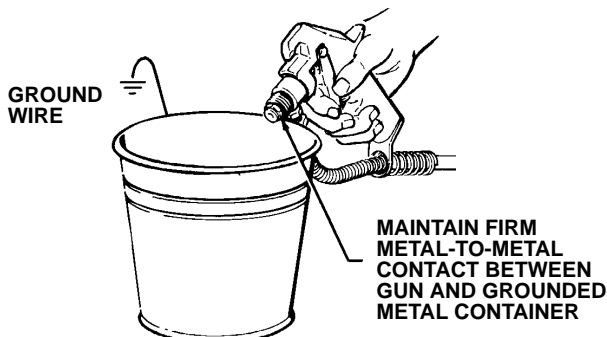

Fig 3
- Hold a metal part of the gun firmly against and aimed into a grounded metal waste container. *See Fig 3.* Squeeze the trigger and hold it open, turn the sprayer ON, and slowly increase the pressure setting until the sprayer starts. Keep the gun triggered until all air is forced out of the system and the paint flows freely from the gun. Release the trigger and engage the gun safety latch.